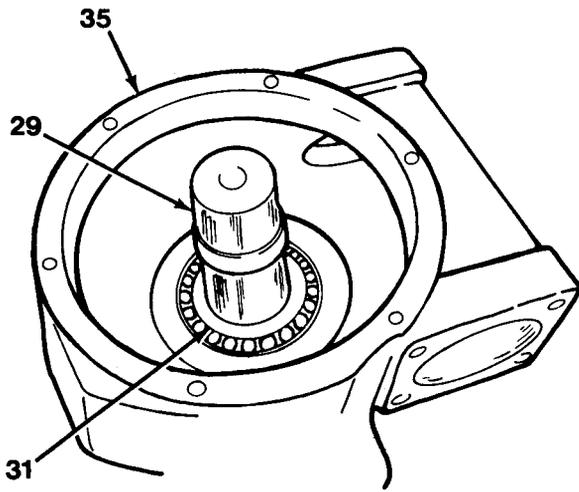
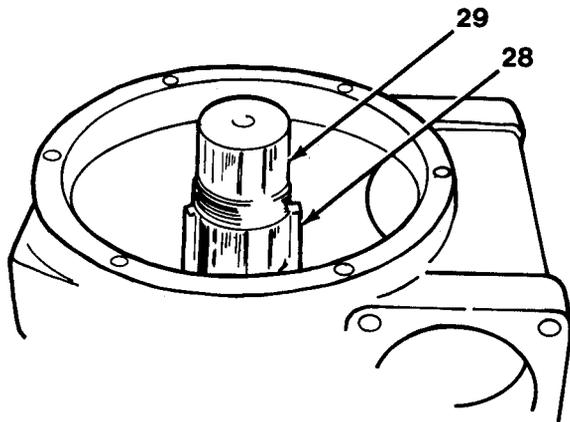

Figure 15-13
Figure 15-9
4. Install output shaft (29, Figure 15-13).
5. Turn housing (35) over and install remaining bearing cone (31). Press completely onto shaft (29).
6. Install keys (28) on output shaft (29, Figure 15-9).